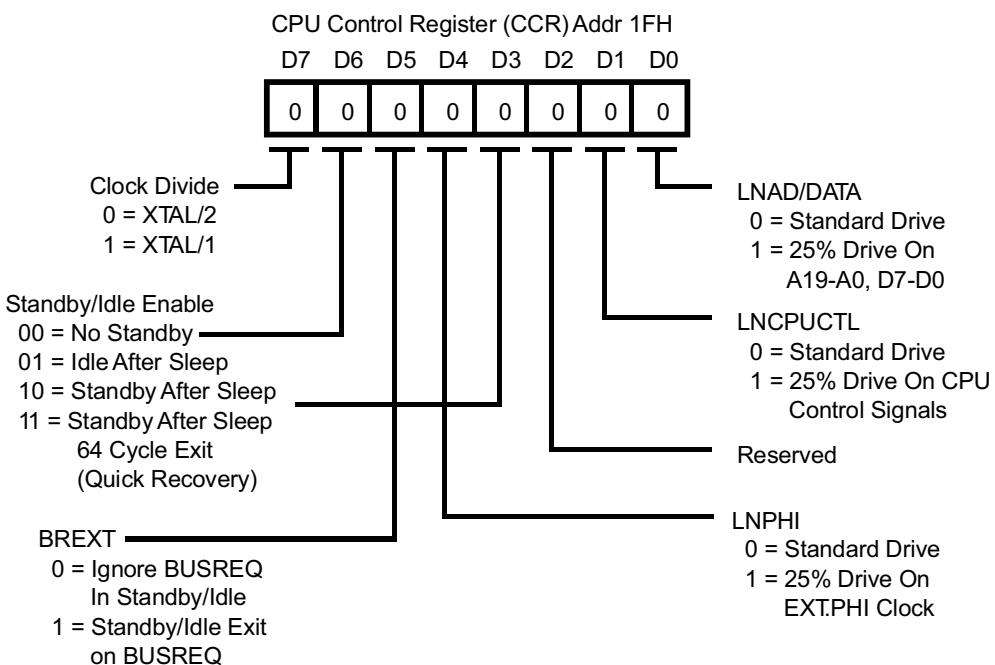

Figure 51. CPU Control Register
Read Registers. The ESCC contains ten read registers (eleven, counting the receive buffer (RR8) in each channel). Four of these may be read to obtain status information (RR0, RR1, RR10, and RR15). Two registers (RR12 and RR13) are read to learn the baud rate generator time constant. RR2 contains either the unmodified interrupt vector (channel A) or the vector modified by status information(channel B). RR3 contains the Interrupt Pending (IP) bits (channel A only). RR6 and RR7 contain the information in the SDLC Frame Status FIFO, but is only read when WR15, D2 is set. If WR7' D6 is set, Write Registers WR3, WR4, WR5, WR7, and WR10 can be read as RR9, RR4, RR5, and RR14, respectively. Figure 51 shows the format of each Read register.